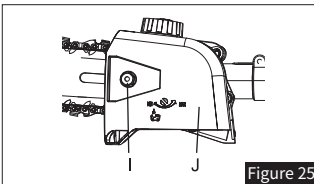

Figure 25
- Loosen and remove the fastening nut (Figure 25, Item I) to take off the saw chain cover (Figure 25, Item J).
- Fit the sprocket cover (Figure 25, Item J) back into position.
- Hand-tighten the fastening nut (Figure 25, Item I).
- Turn the fastening screw (Figure 25, Item I) of the saw chain cover counterclockwise by a few turns. DO NOT remove it completely.
- While holding the tension, firmly tighten the saw chain cover fastening screw (Figure 25, Item I) to lock the setting.